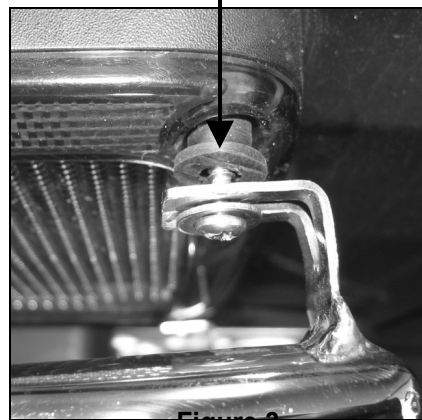

Figure 3
3. Place Rubber Spacers between the taillight lens and the Tail Light Guard, then position Tail Light Guard onto lens (Figure 3).